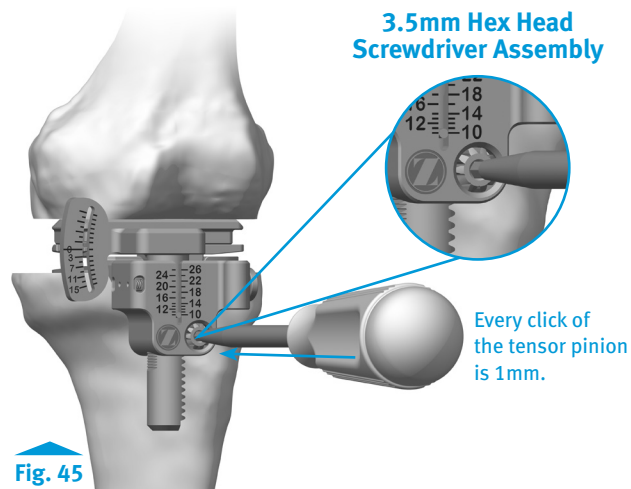

Fig. 45
- Using 3.5mm Hex Head Screwdriver, apply the appropriate amount of force to the tensor to distract the joint (Fig 45).